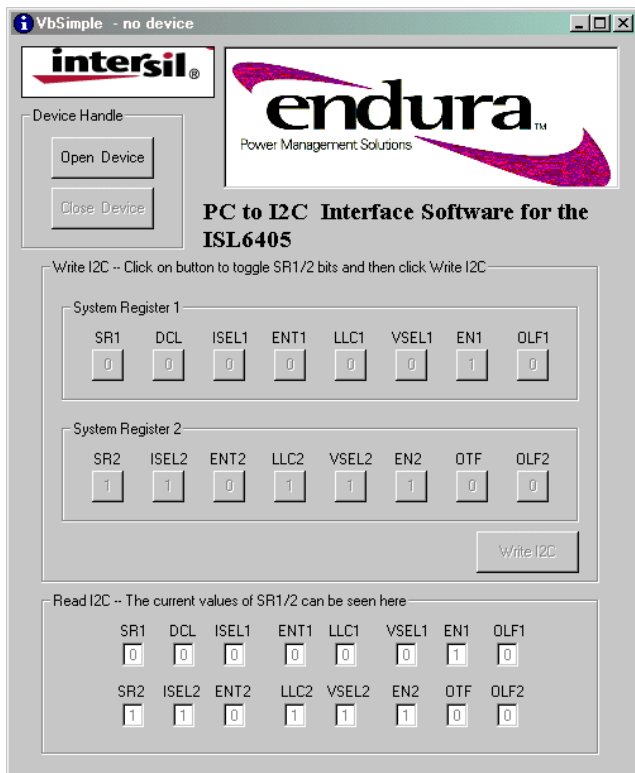

FIGURE 4. PC TO I²C APPLICATION WINDOW
9. Run the ISL6405i2crevb.exe program copied to C:\some directory'. Figure 4 shows the PC to I²C software application window. Click the 'Open Device' button.